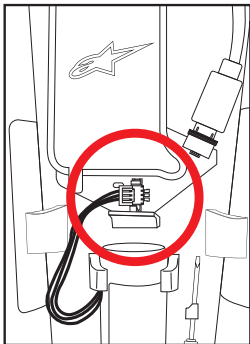

Figure 18: Location of the System Battery (14) Connector
Users should be aware that Gas Inflators (15) are pyrotechnic devices. Under the European Pyrotechnic Directive (2013/29/EU) they are certified safe for transportation, provided that the Battery (14) is physically disconnected from the Electronic Control Unit (6). To disconnect the Battery (14), the User must open the Airbag Control Unit (6) and disconnect the Battery (14) from the connector located on the Electronic Control Unit (16), indicated in Figure 18.